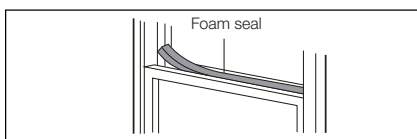

Fig. 17
7. Cut the foam seal to an appropriate length and seal the open gap between the top window sash and outer window sash, as shown in Fig.17.